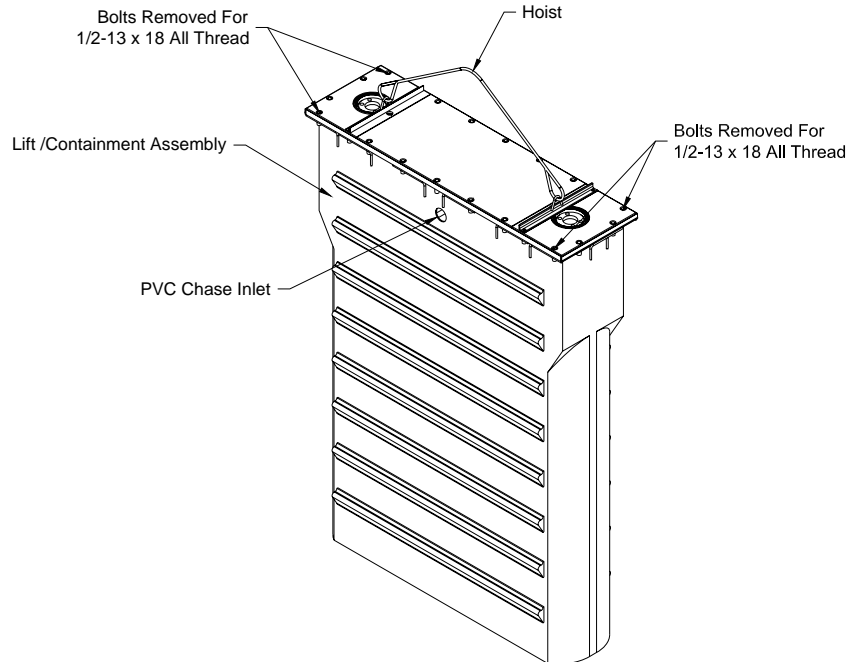

Fig. 3
1. For best balance of lift / containment assembly while lowering into excavation, sling using the shipping straps provided. See Figure 3. **DO NOT** remove or loosen any of the bearing assembly bolts at this time.
- Remove the outer two bolts from each end of the center cover plate and replace with 1/2-13 x 18 threaded rods. Attach two 6 x 6 timbers using 1/2-13 nuts and washers, to support the lift / containment assembly on the existing floor or forms. Remove the shipping straps and replace the bolts. Torque the bolts to 60 ft-lbs. Bend concrete tie anchors out 90 degrees and down 45 degrees. Refer to Figures 3 and 4.